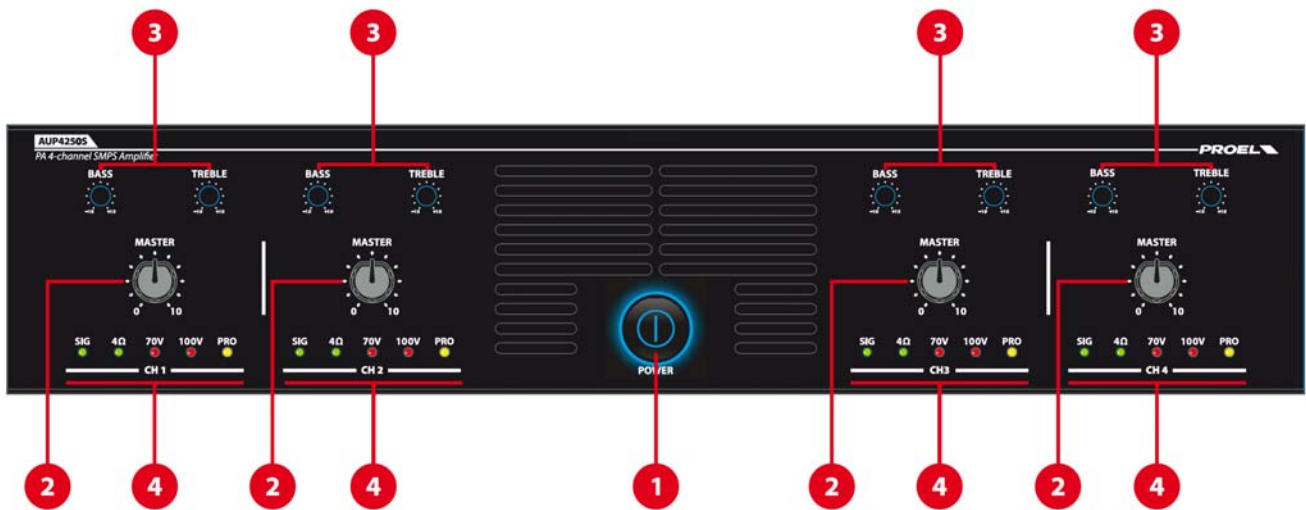

fig.1
The corresponding green Led on the front panel (**Fig. 1, Ref. 4**) lights up.
The corresponding red Led on the front panel (**Fig. 1, Ref. 4**) lights up.
Each channel will respond to its own pitch controls (**Fig. 1, Ref.3**) and Master volume ((**Fig. 1, Ref. 2**)).
Each channel will respond to its own pitch controls (**Fig. 1, Ref.3**) and Master
- CH3&CH4 SELECTOR on DUAL:** volume ((Fig. 1, Ref. 2).
Each channel will respond to its own pitch controls (Fig. 1, Ref.3) and Master volume ((Fig. 1, Ref. 2).